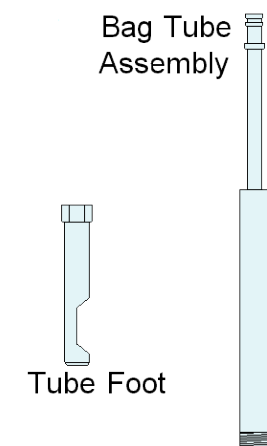

Figure 61- Bag Tube Foot and Bag Tube Assembly
15. The correct foot size can be checked by reference to the manufacturer's instructions. See Figure 61.